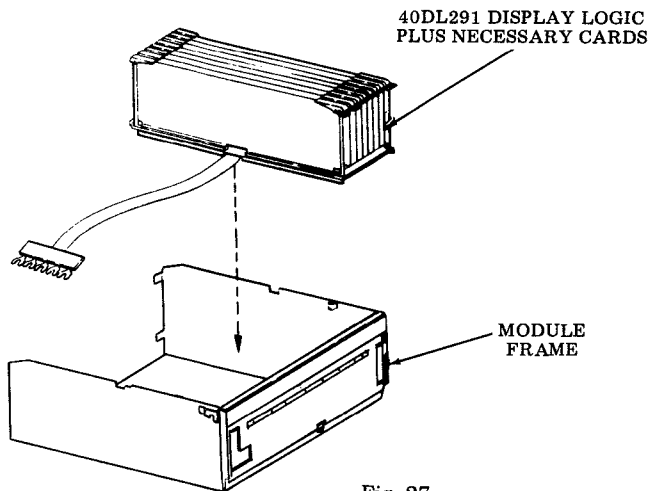

Fig. 27
Step 9 — Install display logic into frame (Fig. 27).